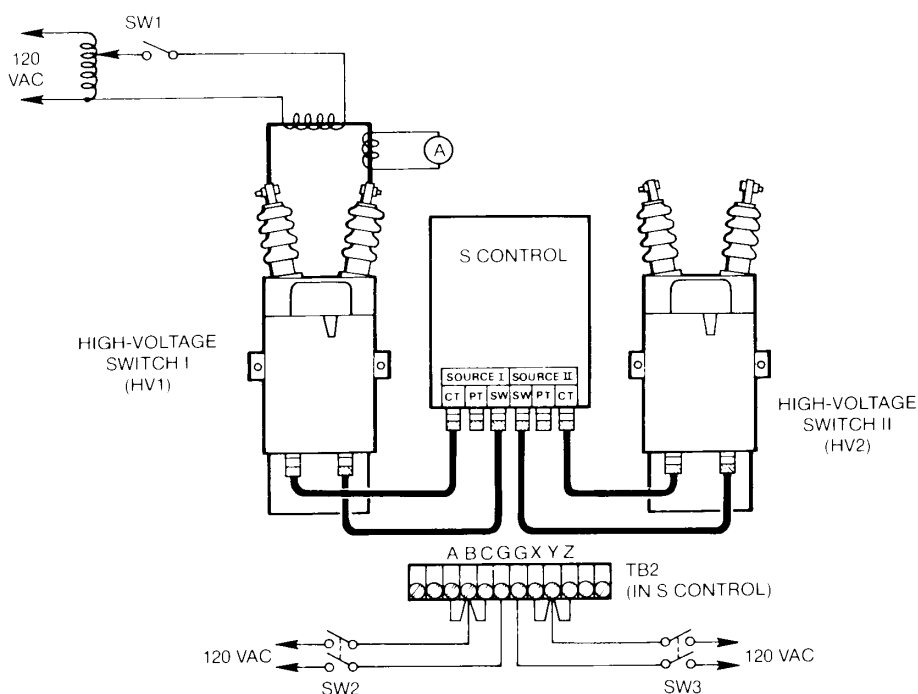

Figure 22.
A suggested test setup is shown in Figure 22. If the control is equipped with the plug and receptacle accessory, use the existing cables to interconnect the motor operators of both high-voltage switches and the CT sensing circuits of the preferred source switch to the S control. If plugs and receptacles are not provided, wire the switches directly to the appropriate terminal blocks as shown in Figures 6 or 8.
1. Disable the ground sensing circuit by shorting the ground fault resistor (Figure 22).